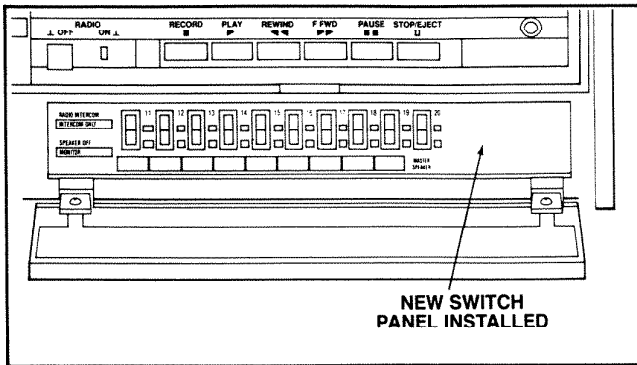

FIGURE 5
- (b) Apply panel to location of previously removed blank panel. See Figure 5.